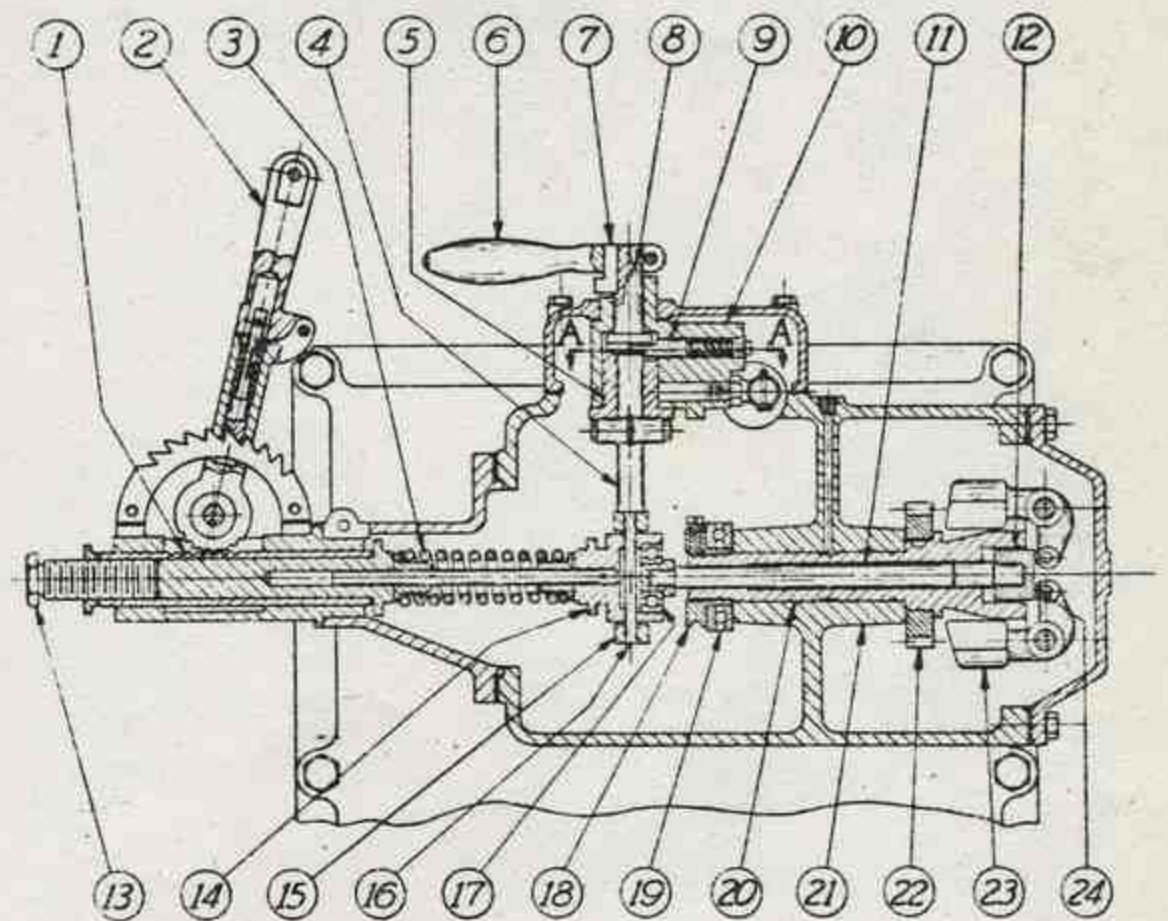
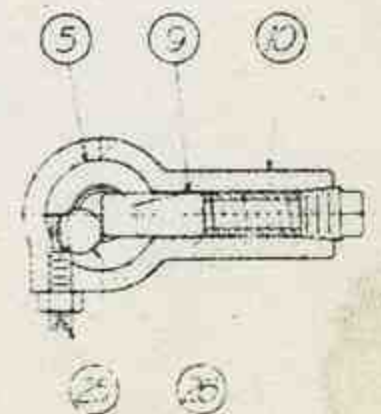

FIG. Q-1
FIG. Q-2
The flyball type governor is mounted on the forward end of the centerframe and is driven by the camshaft gear. It is illustrated in Fig. Q-1. Governor housing (21) which forms the governor bearing is bolted and doweled to the centerframe. It is located to allow .004" - .005" backlash between governor gear (22), which is keyed and pressed on governor body (20), and the camshaft gear. Lubricating oil from the pressure pump is piped to the bearing through a drilled hole in the housing. Governor weights (23) are mounted on fulcrum pins in governor body (20) and carry hardened steel rollers (24) on riveted pins. As the flyballs tend to move out due to centrifugal force, the rollers bear against thrust plate (12) and transmit the force developed by the weights through quill rod (11), thrust bearing (17) and spring block (14) to governor spring (3). The thrust reaction is taken by bearing (19), which is secured to the governor body by threaded retaining collar (18). Thrust clearance is adjusted to .010" and the collar is locked by a set screw, secured in place by a locking wire through the head.
The engine is stopped by rotating the hand lever on top of the governor housing. Lever (6) (See Fig. Q-1) is connected through a release mechanism to floating lever (10) on top of vertical shaft (4). Lever (10) is linked directly to the fuel wedge shaft. The release mechanism is shown in detail in Fig. Q-2 which is an enlarged section taken through A-A in Fig. Q-1. It serves to break the connection between Lever (10) and vertical shaft (4), releasing the wedge shaft from governor control. Referring to Fig. Q-2 it will be noted that set screw (25) and plunger (9), both of which are mounted in lever (10), form a rigid connection between levers (10) and (5). Lever
(5) is clamped to vertical shaft (4) and appears in Fig. Q-2 as the annular segment, the opposite ends of which bear against the diagonally milled flat on the lower side of plunger (9) (shown dotted in Fig. Q-2) and the end of setscrew (25). This is the normal position of the mechanism when the engine is running, levers (10) and (5) operating as a single unit. When hand lever (6) is pulled to stop the engine, eccentric (26) on the lower end of shaft (8) engages the end of plunger (9) and forces it back against its spring, out of engagement with lever (5). Lever (10) is then free to rotate counterclockwise without interference with lever (5). As control lever (6) is moved further the projecting key (7) engages a boss extending from the top of lever (10) (not shown in Fig. Q-1) and thereafter lever (10) follows the motion of hand lever (6), pulling out the fuel wedges and stopping the engine.